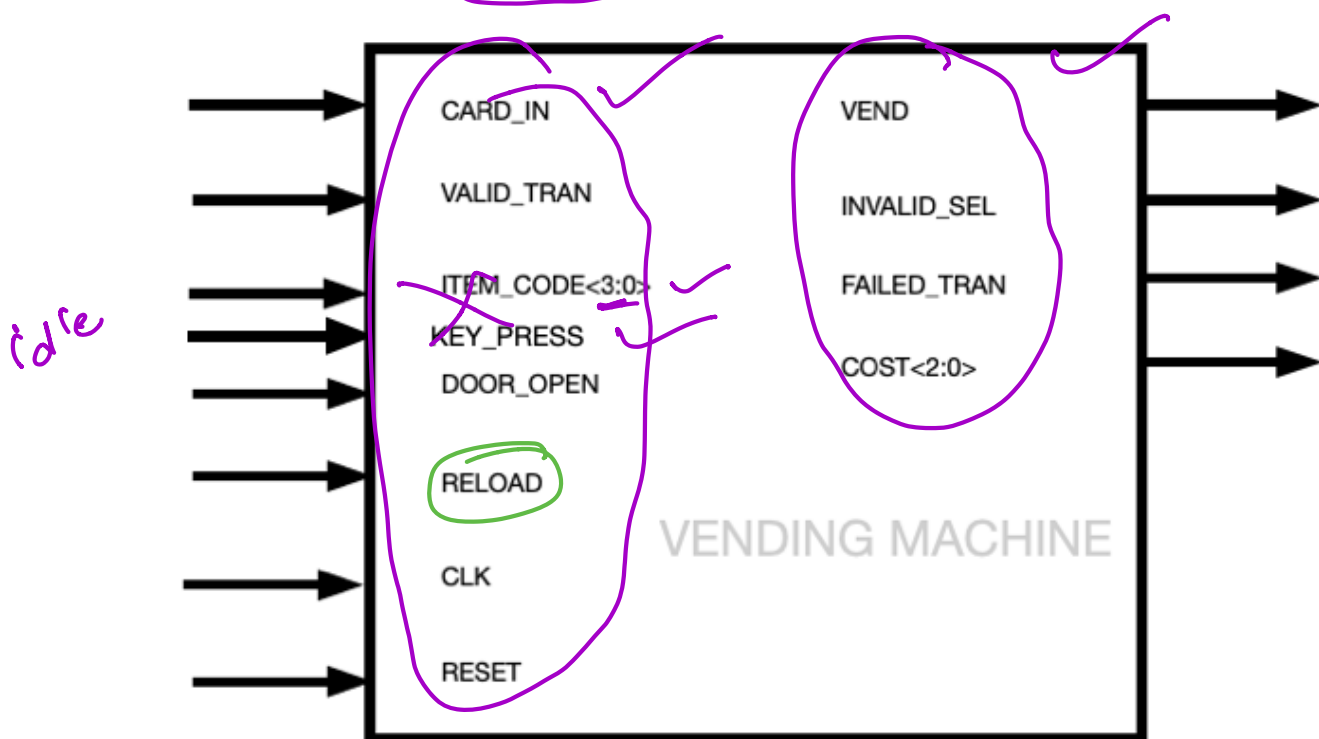

Figure 3: VENDING MACHINE I/O
The I/O of the module vending_machine should be exactly as shown in Figure 3.
1. **Verilog source code** for the "vending_machine" module. The file should be named exactly as "vending_machine.v" and the module and port names should exactly match names defined in Figure 3. It is very important as your code is automatically run. Also, note that this code should be completely synthesizable. ***There is no restriction on the naming of the submodules (if any) but make sure to place all the submodules in the vending_machine.v file.